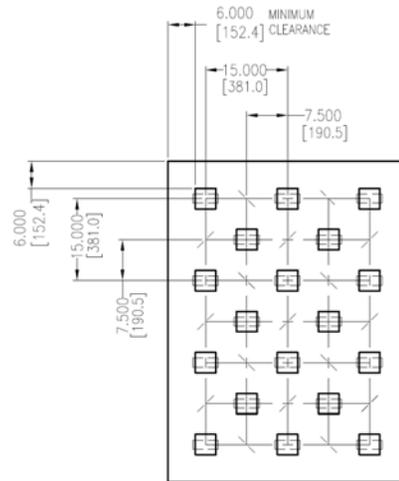

Figure 16. Example of 15''x7.5''(38.1x19.0cm) Anchor Pattern
- b. Note the orientation of the wire anchors relative to one another and the adjacent ceramic anchors in Figure 16.